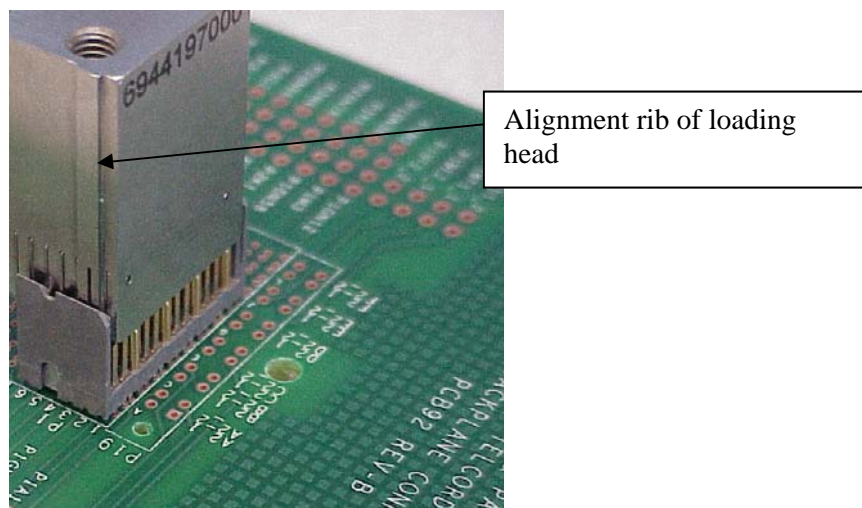

Figure 19. Loading Head Inserted into Backplane Module
5.3.2 Obtain correct loading head part number from tables 3 and 4. Insert loading head into pin field, aligning rib of tool to column "2" of module per Figure 19.